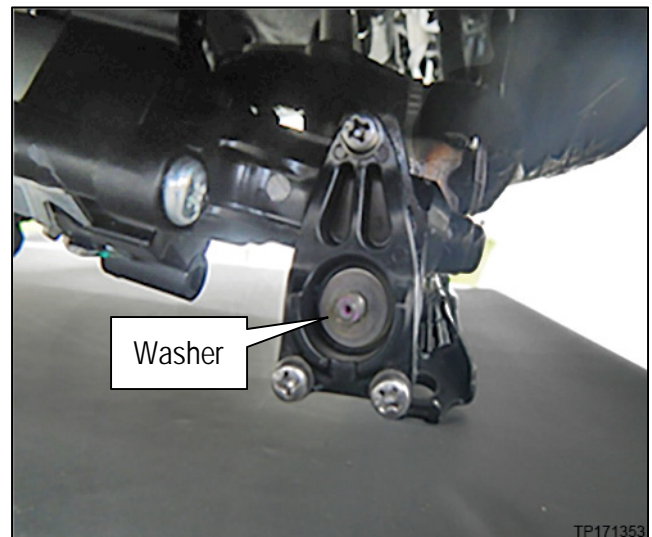

Figure 4
**NOTE:** Do NOT remove the washer installed behind the nut on the outboard and inboard positions. Refer to Figure 4.